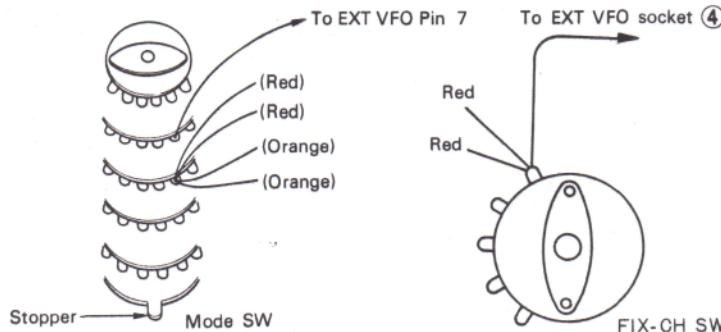

Fig. 12
5. On the MODE switch, reconnect the red lead to the terminal with the orange lead. Remove the jumper across the terminals for the red and orange leads. Connect the MODE switch terminal from which the red lead was removed with pin ⑦ on the EXT VFO socket. (Fig. 12).